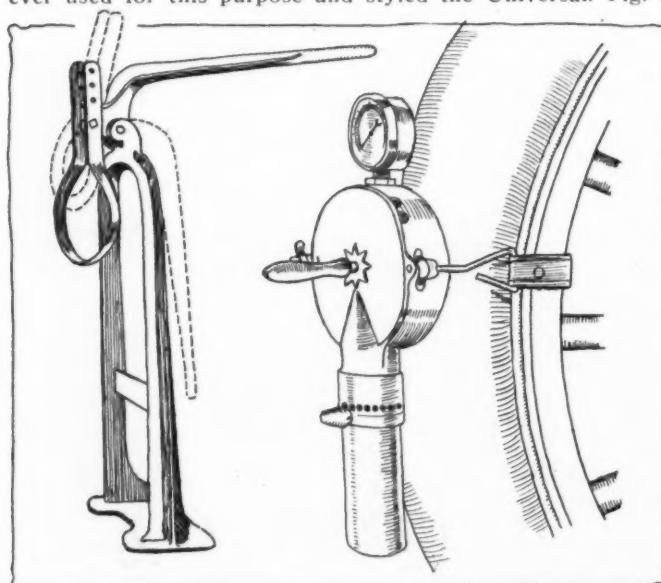

Fig. 1—Moore jack. Fig. 2—Star portable steam vulcanizer
**S TAR Portable Vulcanizer**—The Star Vulcanizer Mfg. Co., Columbus, O., manufactures the portable steam vulcanizer, Fig. 1. This device consists of a small steam boiler of gray iron tested to withstand 300 pounds pressure per square inch and fitted with a concave surface which fits that of the casing of the tire. In operation, the burner under the boiler is filled with alcohol and the fuel is lit, whereby the water in the boiler is vaporized and circulated to heat the plate contacting with the tire. A gauge shows the pressure of the steam on the device.